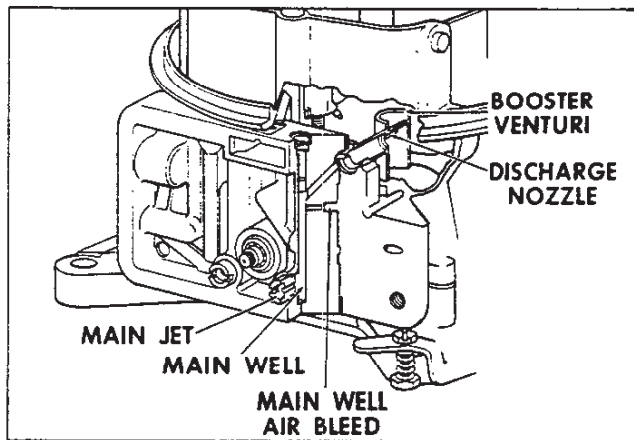

Fig. 5—Main Metering System
4. Main Metering System (fig. 5) consists of the